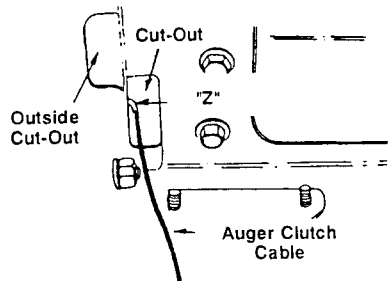

FIGURE 14
- The clutch cables are in the screw pack. Feed the "Z" fitting up through the inside cut-out in the handle panel (the outside slot is reserved for the trigger cable). See figure 14.
- Feed the trigger cable up through outer portion of cut-out in the handle panel as shown in figure 14.